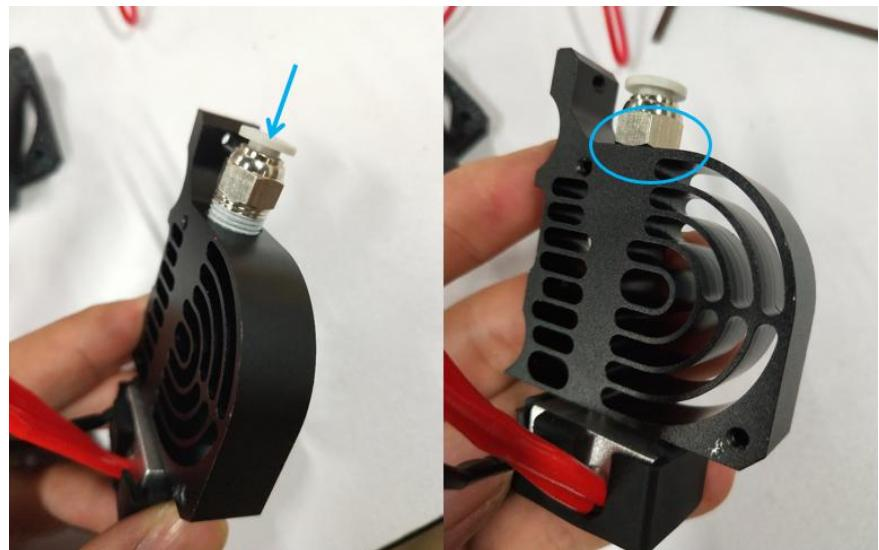

Figure 2.12.5
**Step 2-12-5:** As shown in Figure 2.12.5, screw the fast connector-peg into the radiator of the extruder to the bottom of the thread.